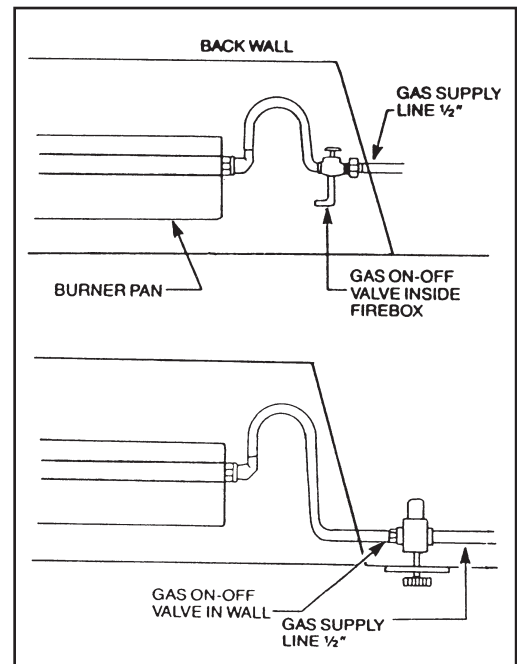

Figure 4. Gas line installation - Masonry fireplace
- F. **Masonry fireplaces.** A 1/2 inch gas supply line must be provided to the firebox. Most installations require drilling an access hole through the masonry wall. The supply line should be secured and sealed by mortar within the access hole. The supply line should also have an ON-OFF valve either in the wall or inside the fireplace. (See Figure 4)